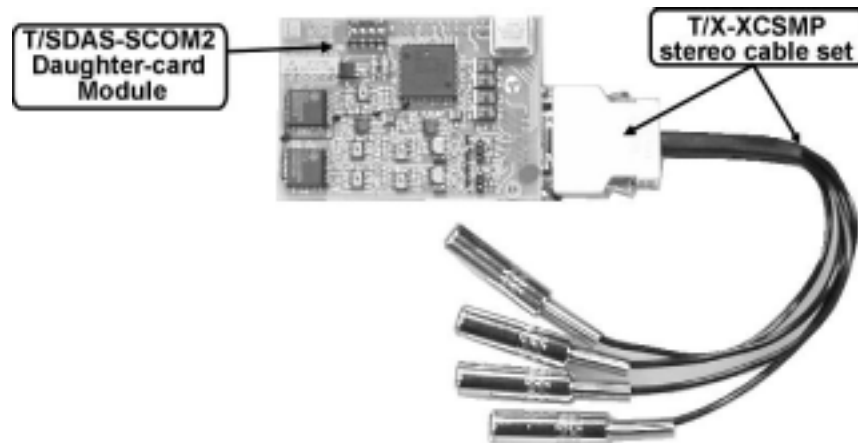

Fig. 1-3. *T/SDAS-SCOM2* daughter-card module with *T/X-XCSMP* stereo cable set.
- T/X-XCSMP stereo analog I/O cable set (fig.1-3) for connection of stereo MIC/Line-in/Line-out/Phone set